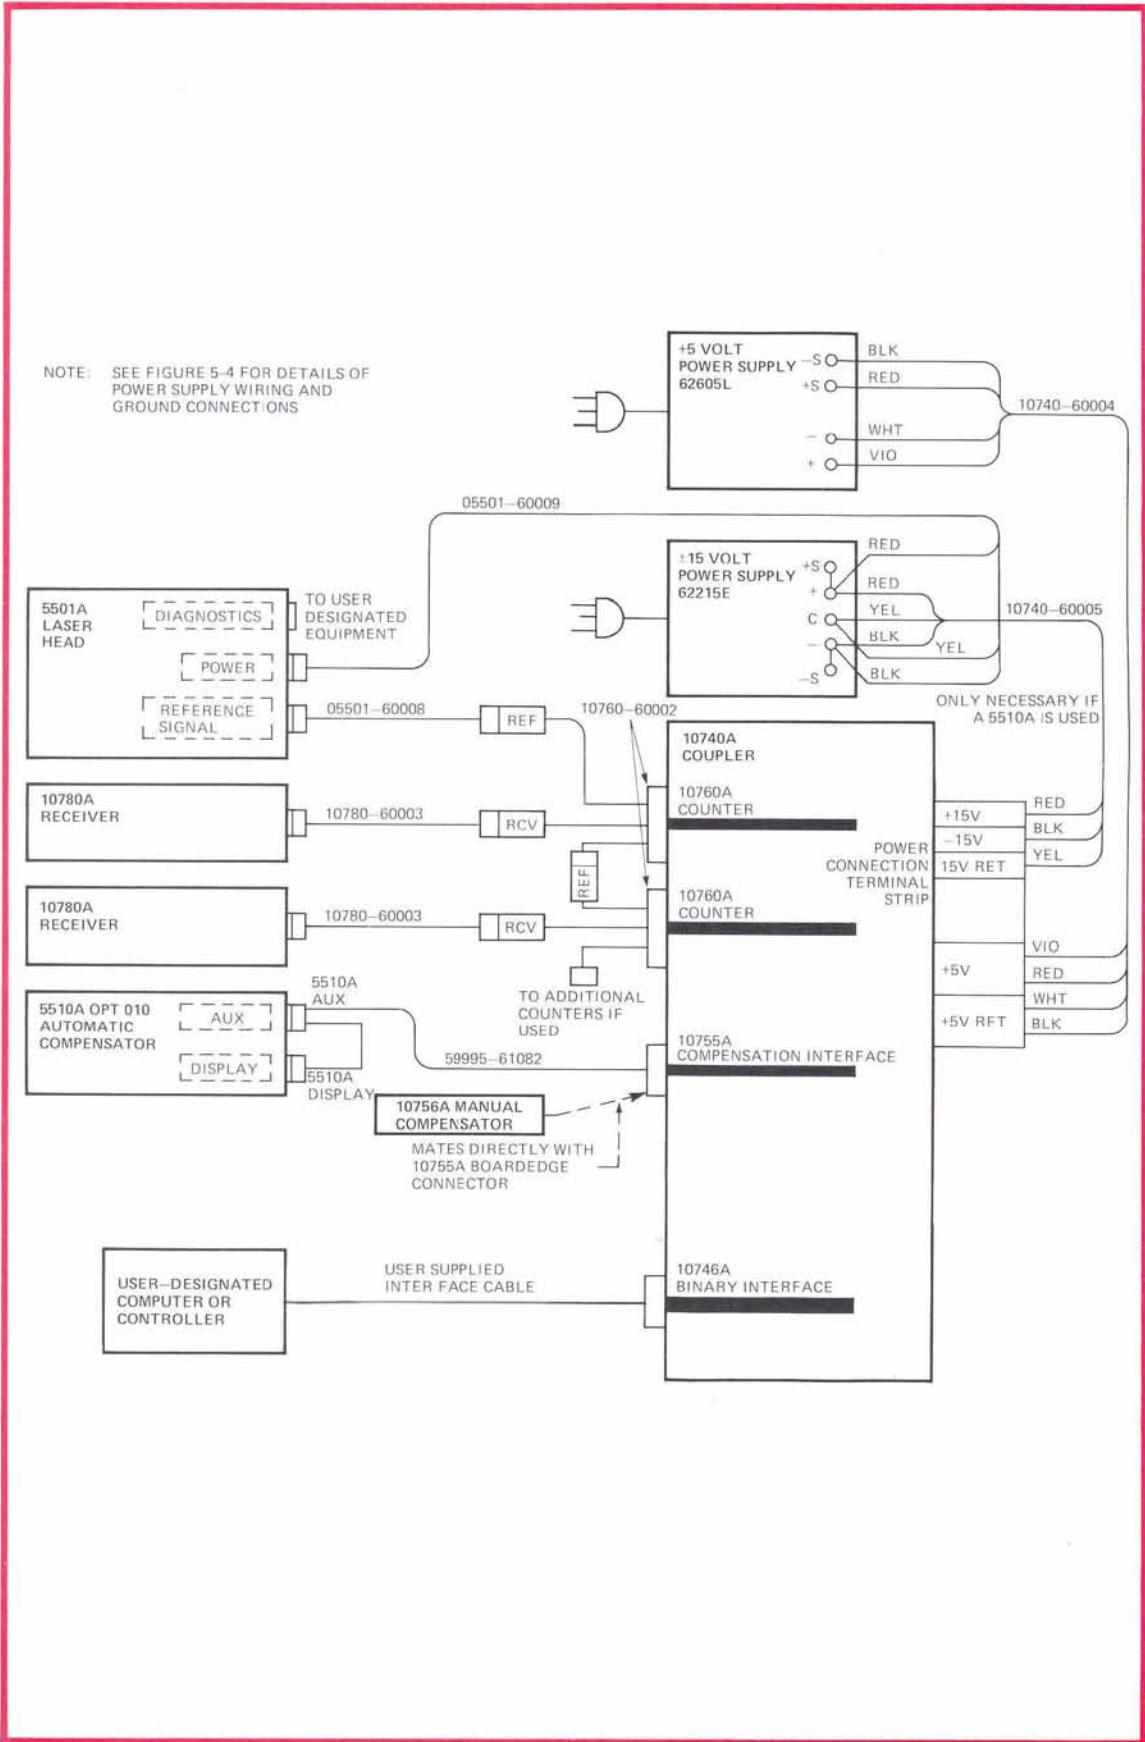

Figure 5-7. Counter-Based System Interconnecting Diagram
- i. Connect the reference/measurement cable from the laser head and first receiver to the first 10760A Counter card (see *Figure 5-7* for a typical system setup).
- j. Connect the hooded connectors in sequence to each of the additional 10760A Counters in the system and daisy-chain the REF connectors as shown in *Figure 5-7*.